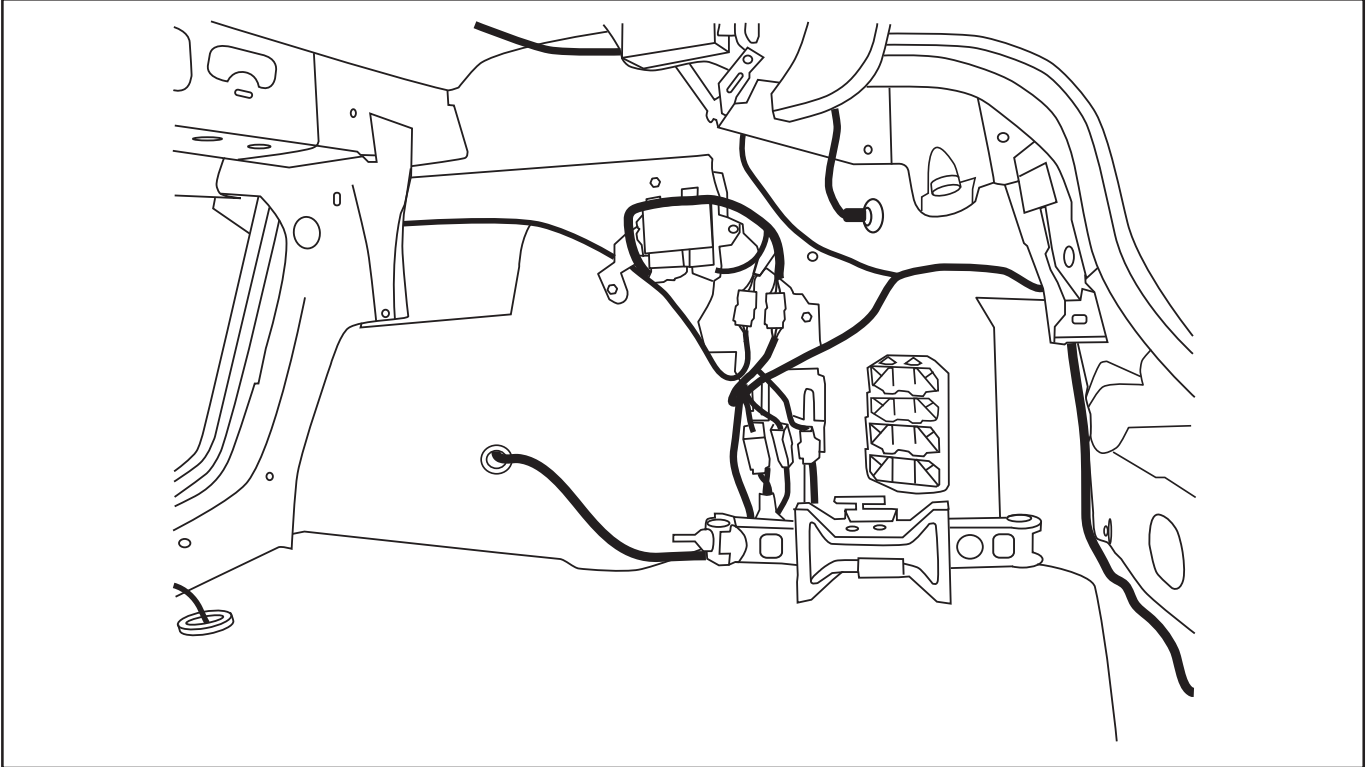

Fig. 10
12. Remove right-hand trunk trim (Fig. 10).